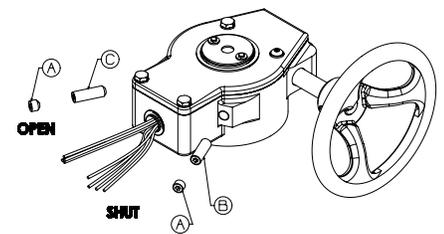

Fig. 5
4. Stop adjustment – Using a 5mm hex Allen wrench, remove both locking set screws (A) as shown in Figure 5.
- SHUT stop adjustment - Using a 5mm hex Allen wrench, turn set screw (B) counter-clockwise 2 turns. Rotate handwheel until disc is centered in valve seat. Turn set screw (B) clockwise until it stops. Secure set screw "B" by replacing only one locking set screw (A) in same hole and tightening it until it stops.
- OPEN stop adjustment – Using 5mm hex Allen wrench, turn set screw (C) counter-clockwise 2 turns. Rotate handwheel until disc is centered in valve opening. Turn set screw (C) clockwise until it stops. Secure set screw (C) by replacing second locking set screw (A) in same hole and tightening it until it stops.